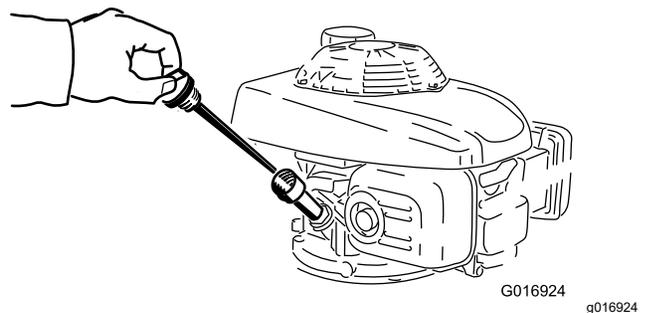

Figure 20
5. Remove the dipstick (Figure 20).